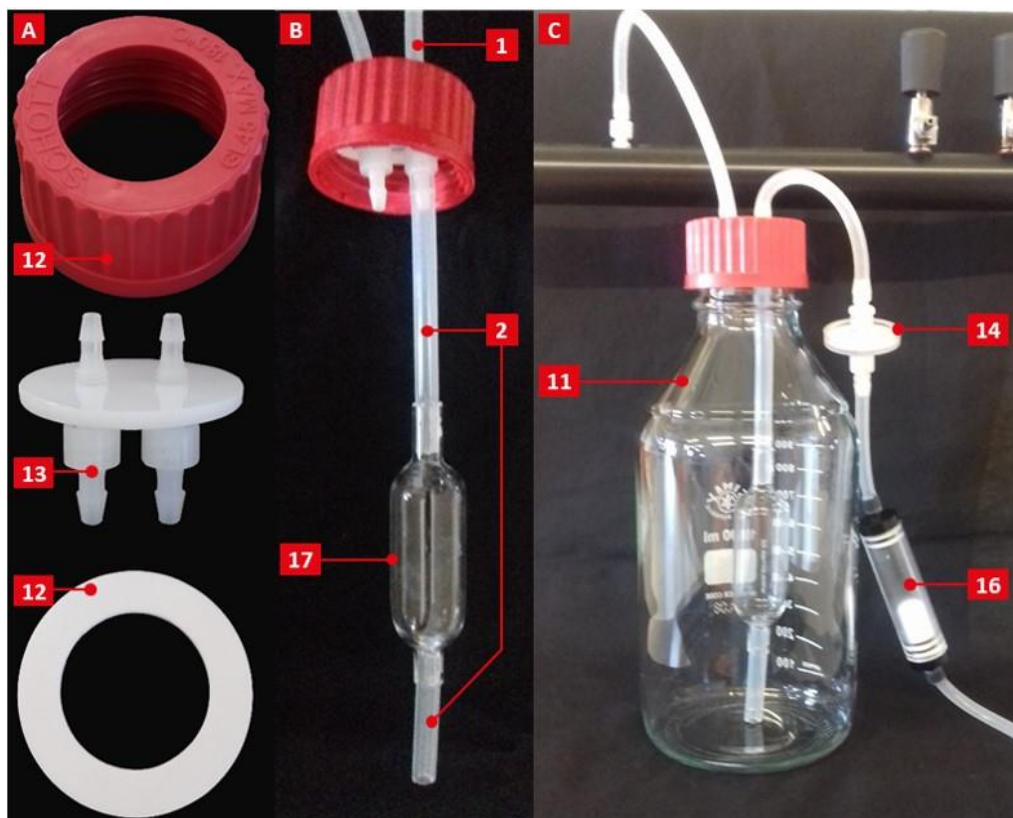

Fig. 17 Assembly of the humidifier with plastic lid with ports.
38. Should the MC 1000-OD delivery include the plastic lid with ports, assemble the humidifier bottle according the following schemes in Fig. 17. Please note, the silicon tubing connected to the Specimen tube (outlet silicone tubing \varnothing 8/5 mm) is inserted into the glass sleeves. The humidifier bottle with cap, plastic ports and Specimen tube is autoclavable whereas the Air filter and Teflon runner are not autoclavable.